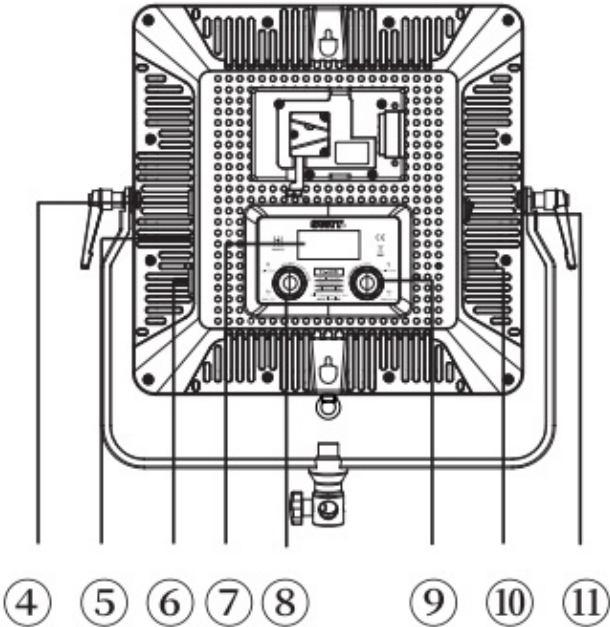

Fig.6 CL-60D
This product support battery and adaptor power supply, switch on the light (Fig.6 (1)), set the required light parameter by brightness adjusting knob(Fig.6 0), color temperature adjusting knob (Fig.6 0), then use normally.
This product support two-color temperature and brightness adjusting mode: General adjusting mode, Fast adjusting mode. Press the brightness/color temperature adjusting knob (Fig.6 0/0) to change the adjusting mode the user can set the brightness/ color temperature quickly by combining the two adjustment modes according to the user demand.
Long pressing the brightness adjusting button (Fig.6 ®) about 2s to enter in communication address setting interface, communication address range:001-512.
LCD digital tube field (Fig.8 ®) flashing indicates that the current bit is selected, rotate the brightness adjustment knob (Fig.6 ®) to set the current bit, press the brightness adjustment knob (Fig.6 ®) to determine the setting of the current bit and go to the next bit, when the setting of the last bit is completed, press the brightness adjustment knob (Fig.6 ®) or wait for about 5 s, to exit the setting of the communication address.
Through the DMX line of the lamp network, long-press color temperature adjustment knob (Fig.6 C)) about 2 s, to complete the lamp communication control mode setting.